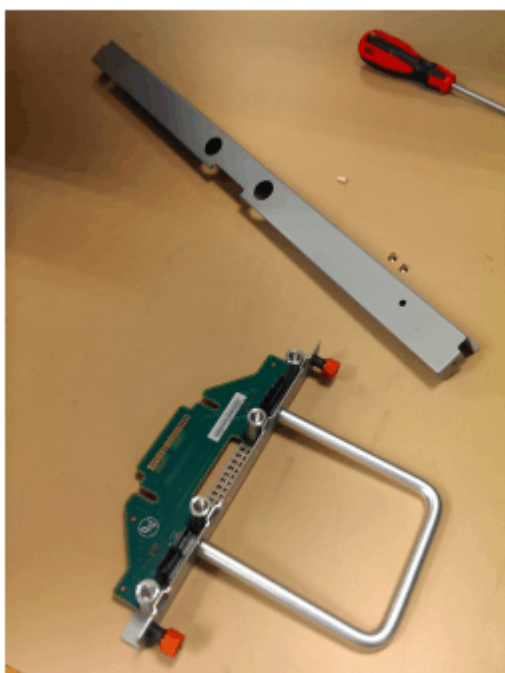

Figure 127. FIB parts removed from the chassis
4. Place the FIB (shown in Figure 127 on page 107) in a safe location.